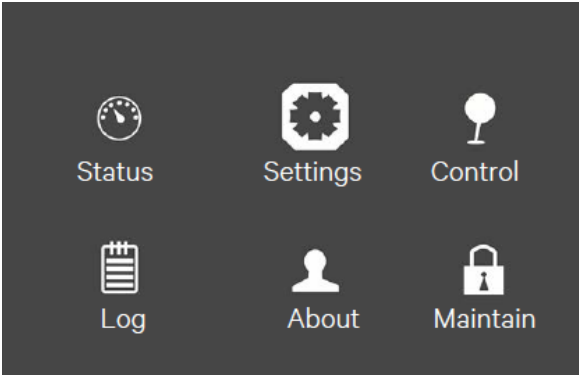

Figure 5-8 Main menu
1. At the main menu screen, press the  or  key to switch the cursor to select 'Settings', then press the  key to confirm it. See Figure 5-8.